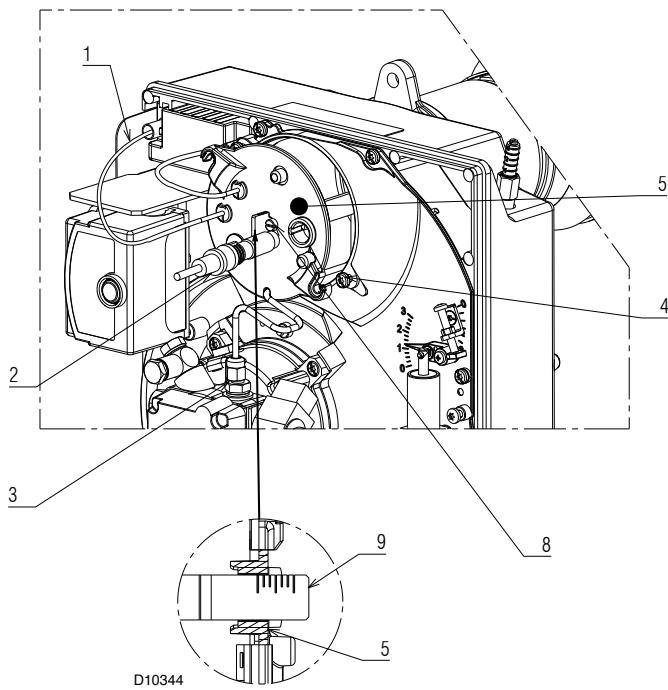

Fig. 21
- Unthread the wires 1) (Fig. 21) from the control box, the flame detector 2), and loosen the nut 3) from the pump.